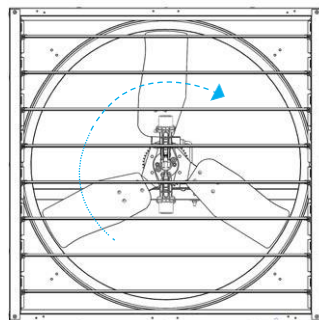

fig. 19
- check that the protection devices (fuses, magnetothermic switches) are correctly sized, and that the phases are connected in the correct order: check that the fan rotates clockwise; look at the exhaust side of the fan and check rotation of propeller (*see fig. 19*).